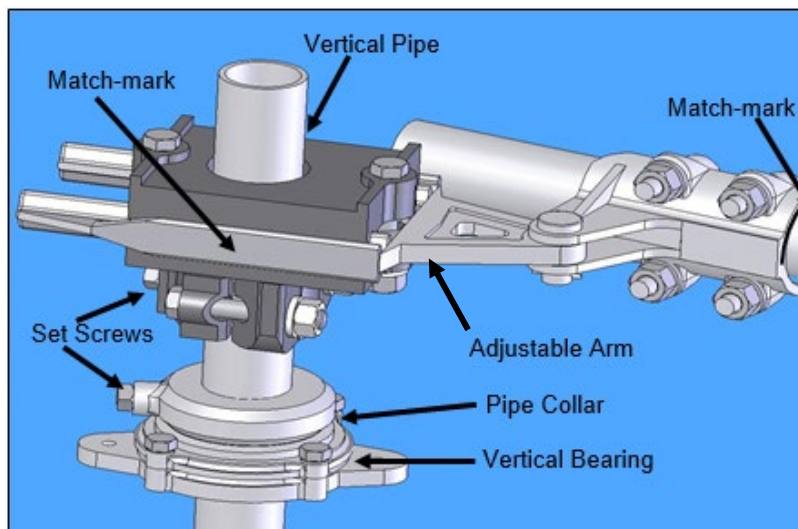

Figure 15: Typical Operating Arrangement
- 5.6. Refer to the Operating Mechanism drawing and install all mounting brackets, bearings, bushings, pipe clevises, switch operating device, adjustable arm, reach rod, and other necessary components. Refer to **Figure 15**. Do not connect the interphase pipe at this time.
- 6.1. The operating mechanism is intended to fully open and fully close the disconnect switch by rotating the vertical operating pipe 180°± using an operator (manual or electrical). The interphase pipe controls the individual operation of each switch pole, using a push/pull control. The reach rod translates the motion of the vertical operating pipe to the interphase linkage. The adjustable arm (**Figure 15**) controls the total amount of switch operation available.